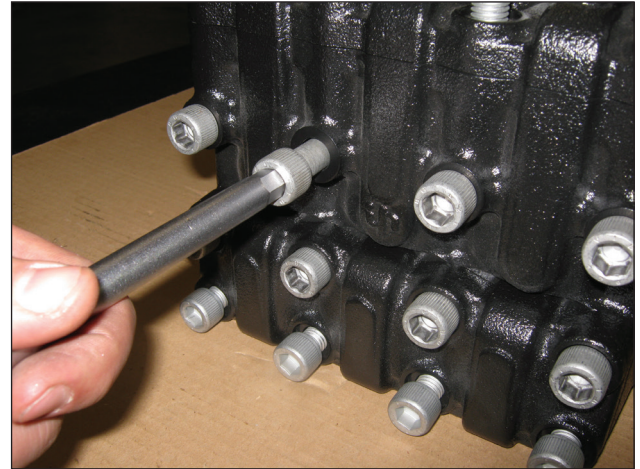

Fig. 24
A) Unscrew the M12x130 head fixing screws as indicated in (Fig. 24).